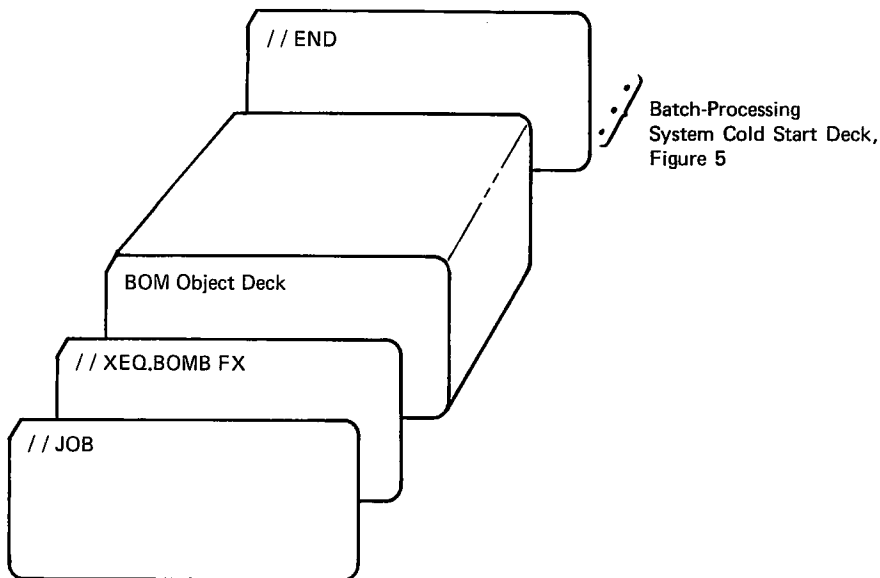

Figure 4. BOM Build Job
To complete the generation of your batch-processing system, you build BOM, using the control statements and BOM object deck illustrated in Figure 4.
1. Place the control cards to build BOM and the BOM object deck in the 1442 hopper in the sequence illustrated in Figure 4.